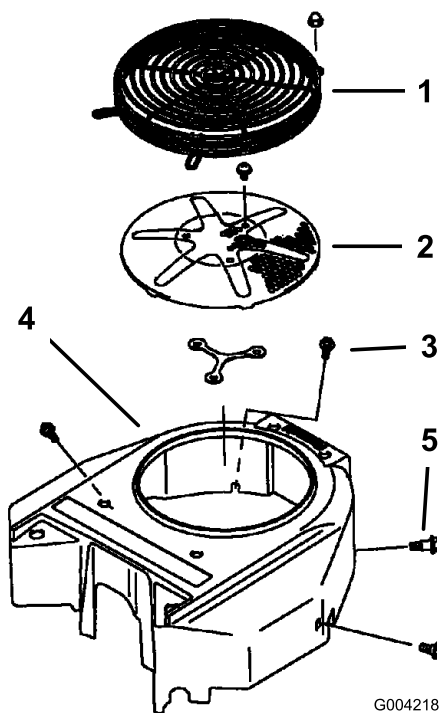

Figure 77
Before each use remove any buildup of grass, dirt, or other debris from the engine screen. This will help ensure adequate cooling and correct engine speed and will reduce the possibility of overheating and mechanical damage to the engine (Figure 77).
3. Remove the air intake screen, recoil starter, and fan housing (Figure 77).
5. Install air intake screen, recoil starter, and fan housing (Figure 77).